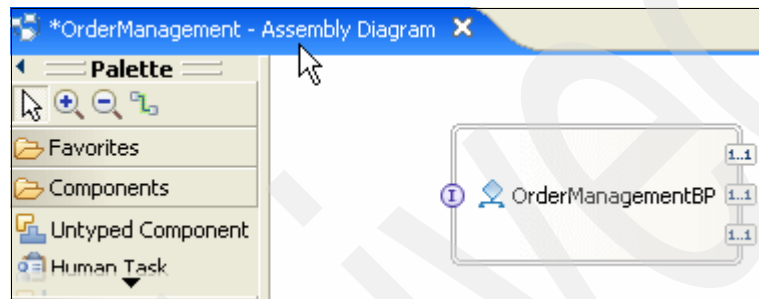

Figure 3-43 OrderManagement's assembly diagram
2. Drag the business process, OrderManagementBP, from the business integration view onto the canvas as shown in Figure 3-43.